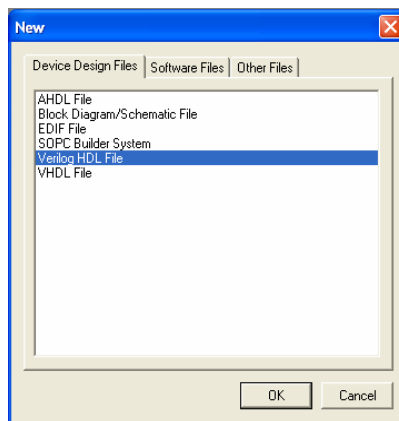

Figure 3.5: Device design files.
7. From the main menu again, File→New is selected. The New popup window appears. VERILOG HDL File is chosen and clicks OK. Refer Figure 3.5.